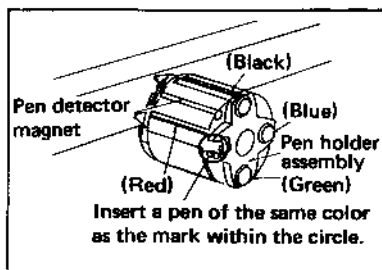

Fig. 4
- * Check the color markings on the pen holder assembly for correct pen setting (Fig. 4).